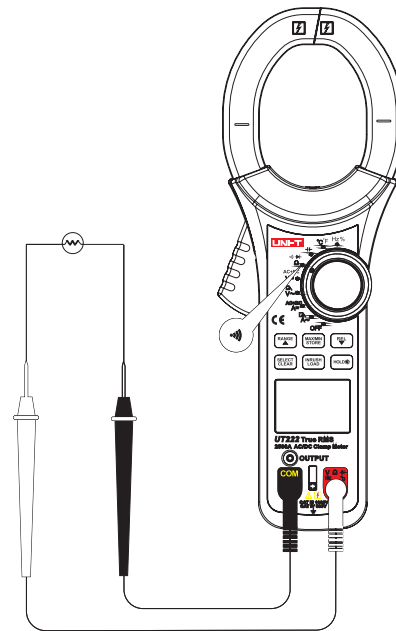

Figure 7
4. Circuit on-off measurement •)) (See Figure 7)